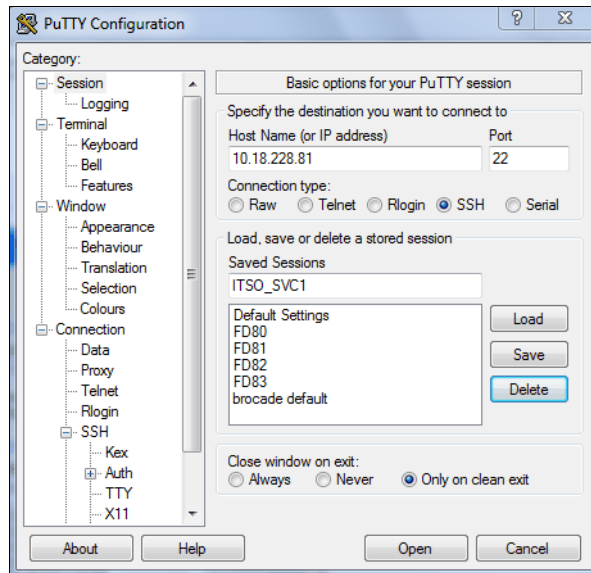

Figure 9-5 IP address
- The IP address of the SAN Volume Controller clustered system. Set this parameter under the **Session** category, as shown in Figure 9-5.